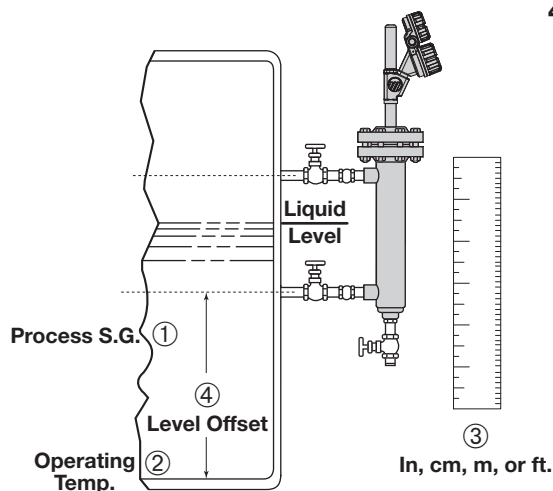

Figure 14
LEVEL_UNITS: Select the units in which level parameters are displayed (cm, in, feet, meters). (④ in figure 14)
PROCESS_SG: Enter the specific gravity of the process liquid at operating conditions. (① in figures 14 & 15)
PROCESS_TEMPERATURE: Enter the process operating temperature. (② in figures 14 & 15)
LEVEL_OFFSET: Enter the desired level output at the zero reference (bottom of displacer or centerline of bottom-side process connection). (③ in figures 14 & 15)
Example: Application of an external cage model E3E with a 48" level range is mounted with the centerline of the bottom-side process connection 12" from the bottom of the vessel. 0% point shall be at the bottom of the vessel and 100% at the length of the level range above the bottom of the vessel. Level Offset = 12" must be entered into the E3 menu. See Figure 14.